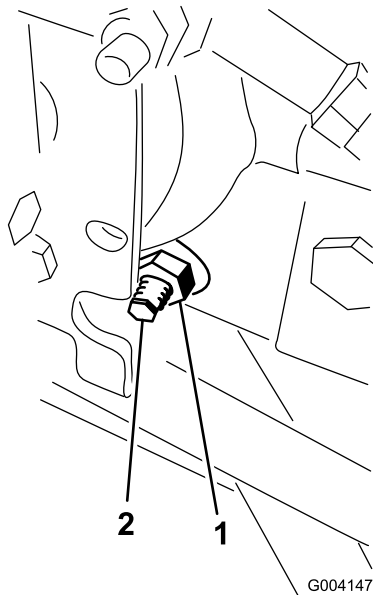

Figure 90
3. On the right side of the hydrostat, loosen the locknut on the traction-adjustment cam (Figure 90).